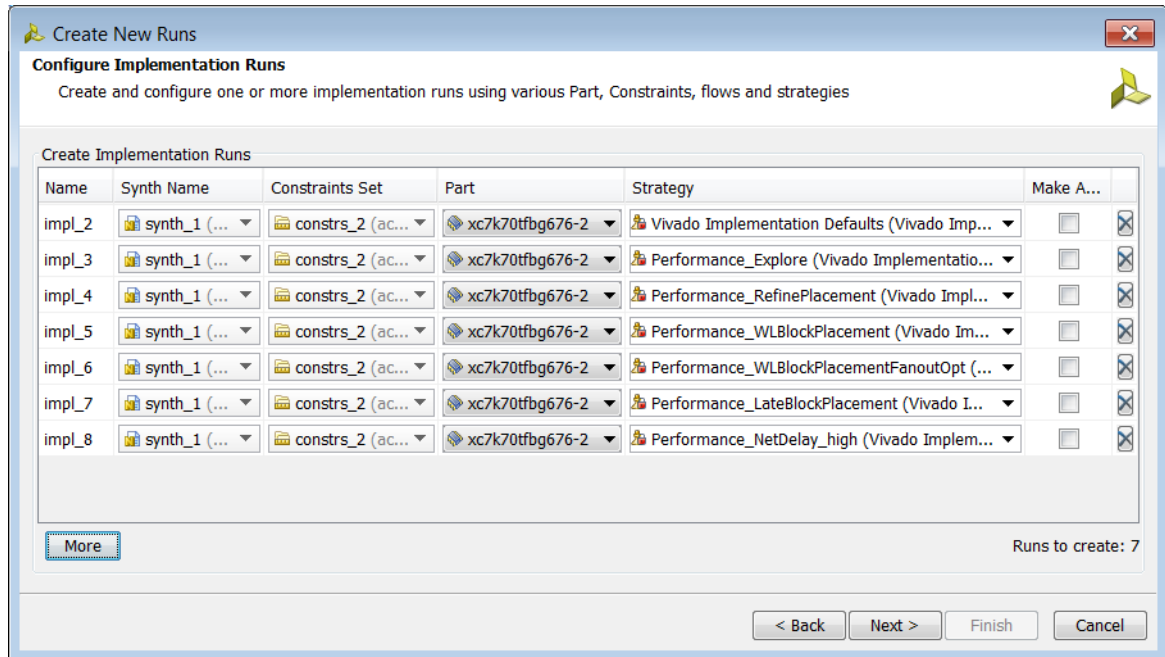

Figure 3-8: Creating Multiple Synthesis and Implementation Runs
3. In the Create New Runs wizard (Figure 3-8), select the constraint set and target part.